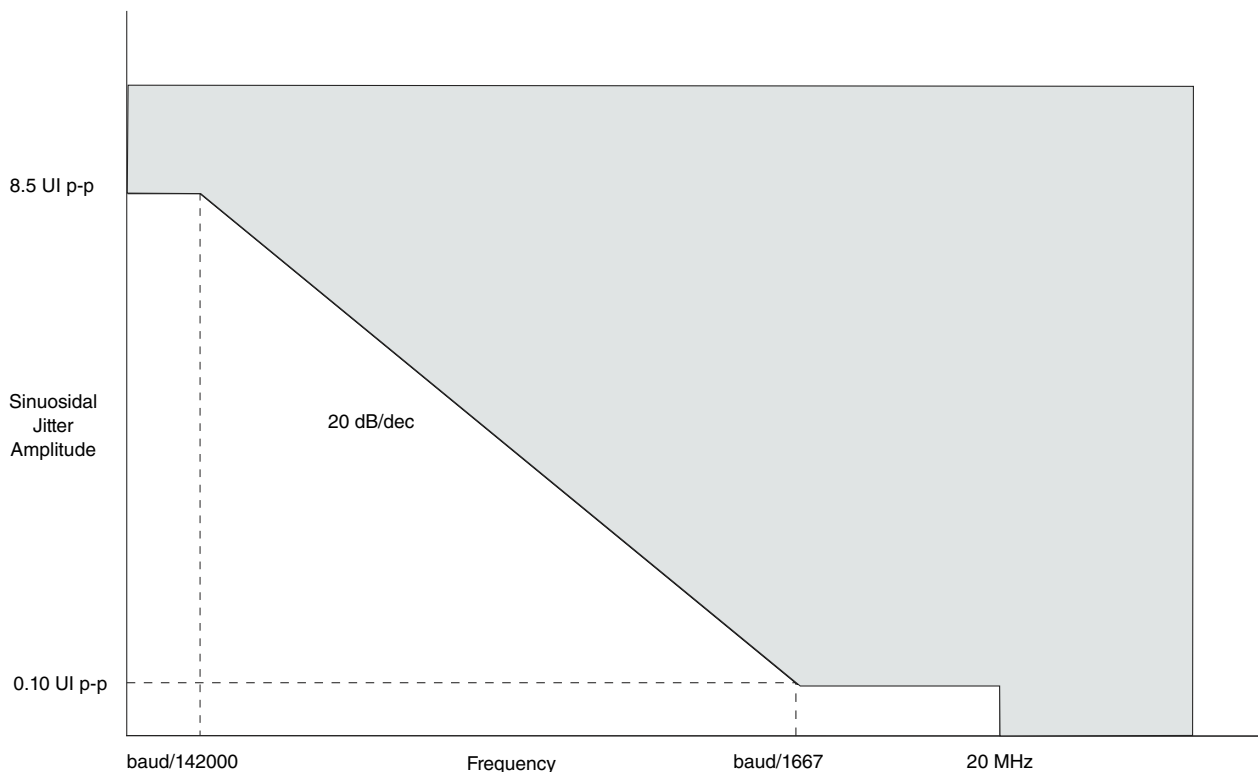

Figure 17. Single-frequency sinusoidal jitter limits
- See Figure 17 for single frequency sinusoidal jitter measurements.
2. Total jitter tolerance is composed of three components: deterministic jitter, random jitter, and single-frequency sinusoidal jitter. The sinusoidal jitter may have any amplitude and frequency in the unshaded region of Figure 17 . The sinusoidal jitter component is included to ensure margin for low frequency jitter, wander, noise, crosstalk, and other variable system effects.